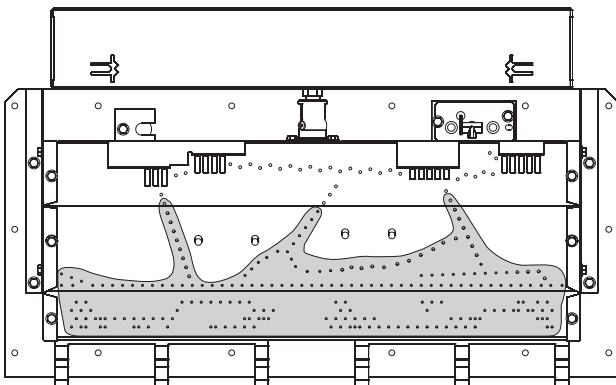

Figure 61
The positioning of logs is critical to safe and clean operation of this fireplace. Sooting and other problems may result if the logs are not properly and firmly positioned in the firebox. Please refer to **Figures 61 through 63** and corresponding WARNING, when completing the following log placement steps.
17. After all logs are properly positioned, place small "dime" size pieces of Rockwool lightly across the front round "blueflame" ports. Place the ember material (Rockwool pieces) side by side. Do not stack more than one layer of embers across the burner ports. **See Figure 61.**